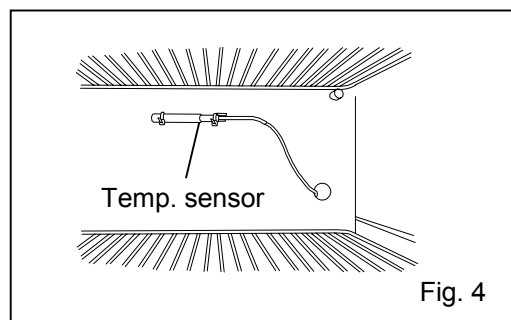

Fig. 4
5. By using the mounting screws and nylon clip, fix the covered temperature sensor as shown in the figure.(Fig. 4)
8. Pass the recorder sensor into the chamber through the access port. (Fig. 4)